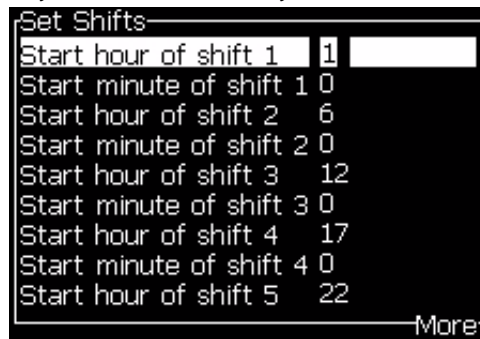

Figure 5-50: Set the Shifts
- 3 Press the *Enter* key to open the *Set Shifts* dialog box (Figure 5-50 on page 5-54).